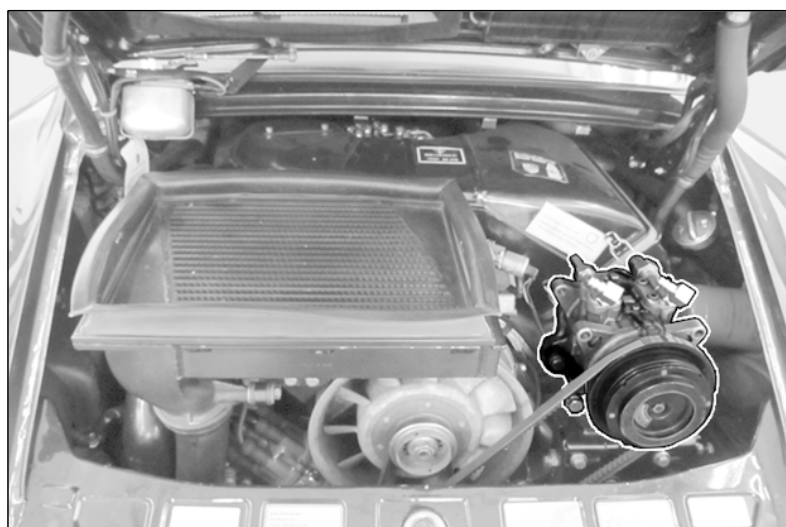

Figure 1
Note: If a faulty air-conditioning compressor (⇒ *Figure 1*) for the 911 Turbo (930) needs to be replaced, an air-conditioning compressor of similar design is available.